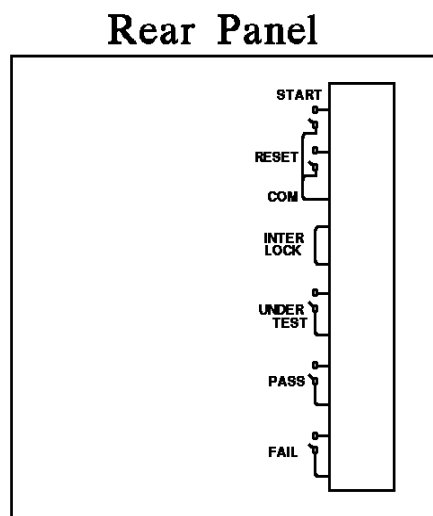

Figure 4-8
5. The pin assignment of REMOTE CONTROL is shown as figure 4-8 below. It should be memorized when using external control.